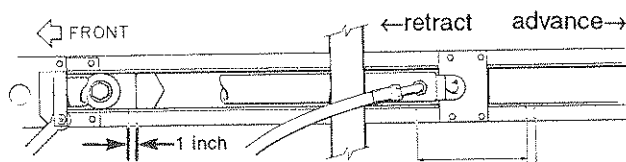

Fig. 47
6. Mark the location the plunger reached fully retracted. Also mark the desired stopping position at 1 inch, 4 inches or 5 1/2 rearward of this mark depending upon feed chute adjustment. See Fig. 47. Also Page 15 "Variable Feed Chute".